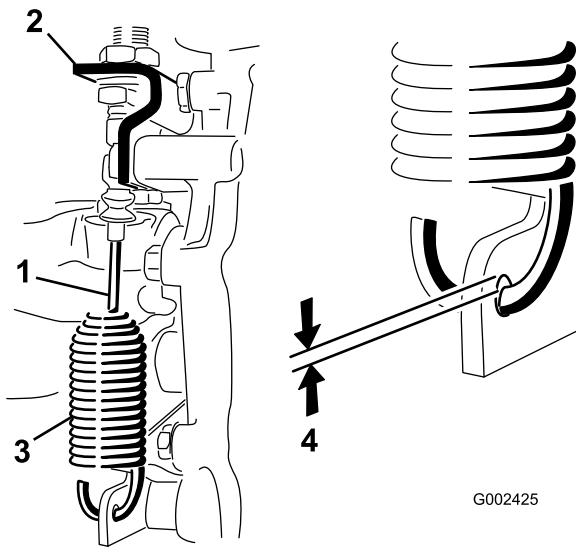

Figure 49
2. Loosen the jam nuts securing the differential-lock cable to the bracket on the transaxle (Figure 49).